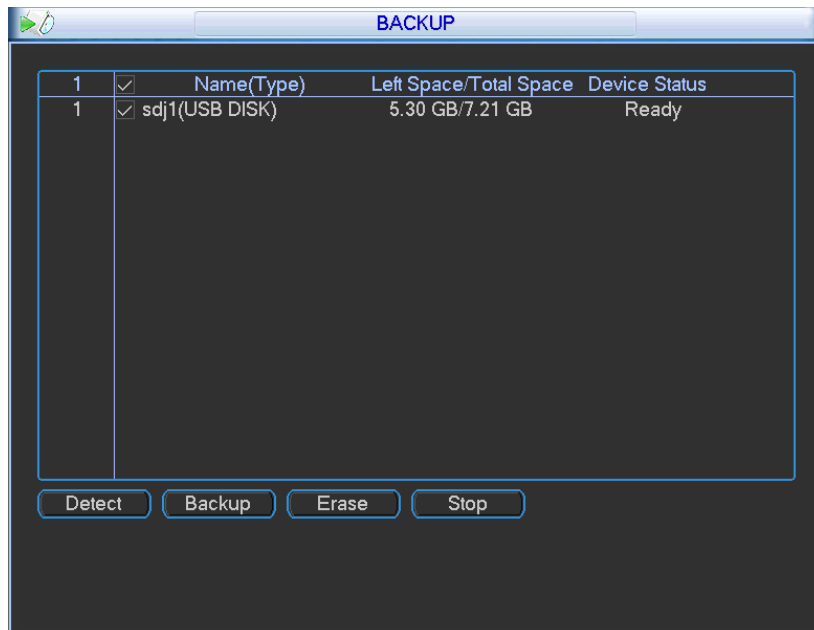

Figure 3-104
- b) From Main menu->Backup, you can go to the Backup interface. See Figure 3-104. Here you can view detected backup device total space and current status.